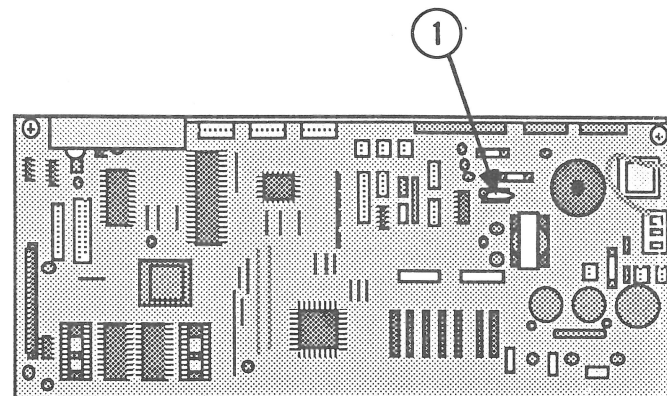

FIGURE 61
4. Disconnect the ground wire for the metal lug on the main board (Figure 61, #1).